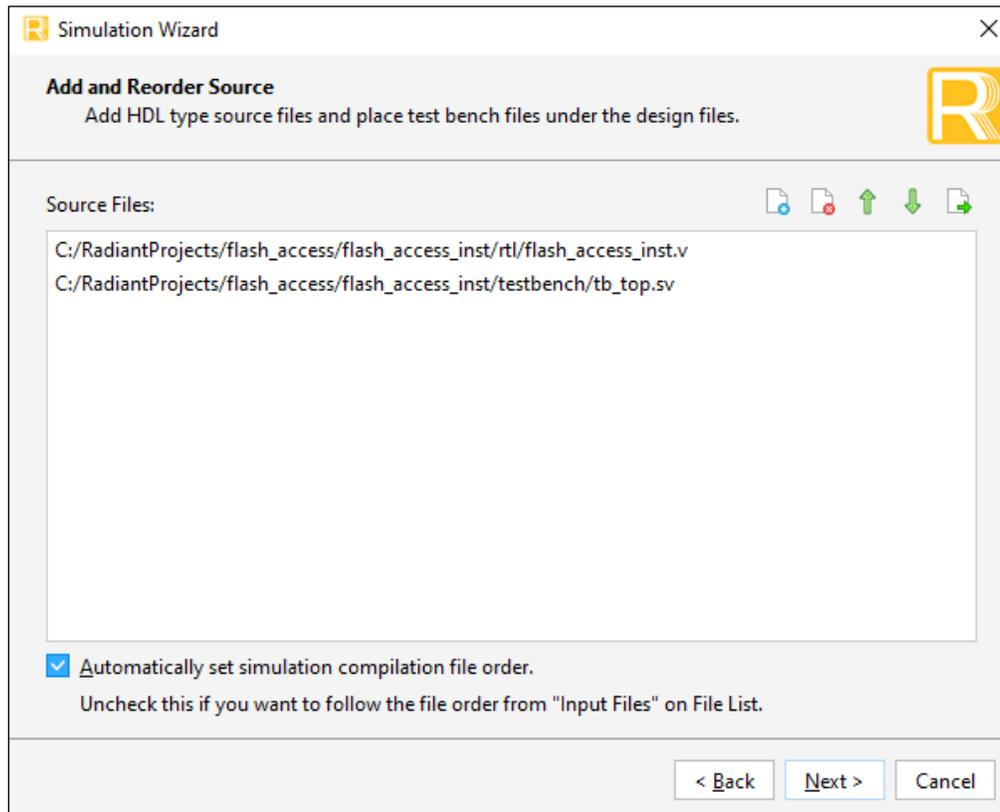

Figure 6.8. Adding and Reordering Source
- Click **Next** to open the **Add and Reorder Source** window, as shown in Figure 6.8.